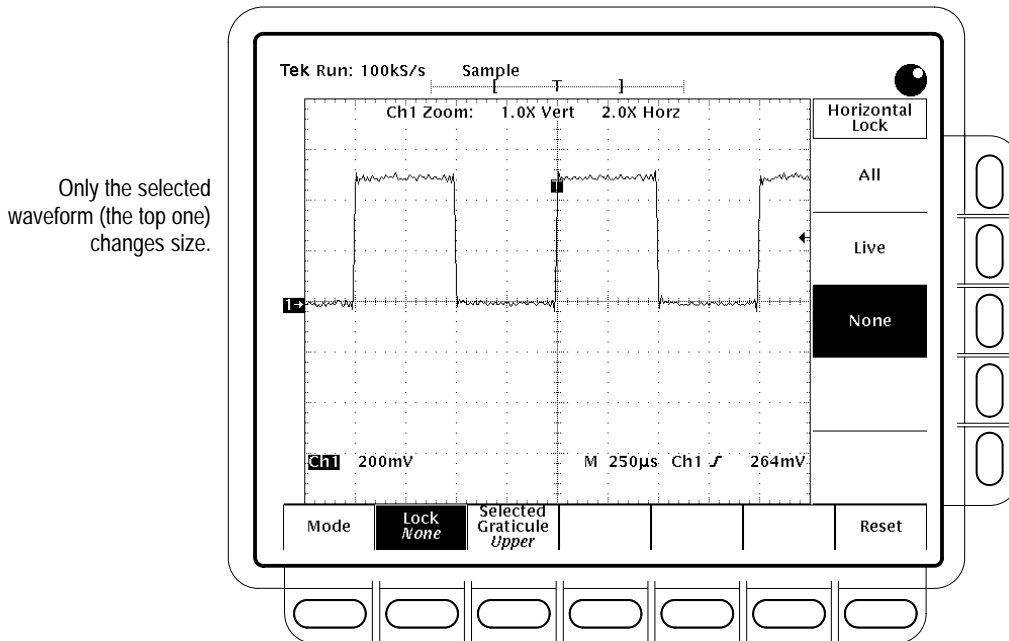

Figure 3–25: Zoom Mode with Horizontal Lock Set to None
*None* — only the waveform currently selected can be magnified and positioned horizontally (Figure 3–25).
1. Press **Zoom** → **Mode** (main) → **Preview** (side). Note that the oscilloscope displays the box-enclosed area on the waveform as magnified in the top graticule. (See Figure 3–26.)